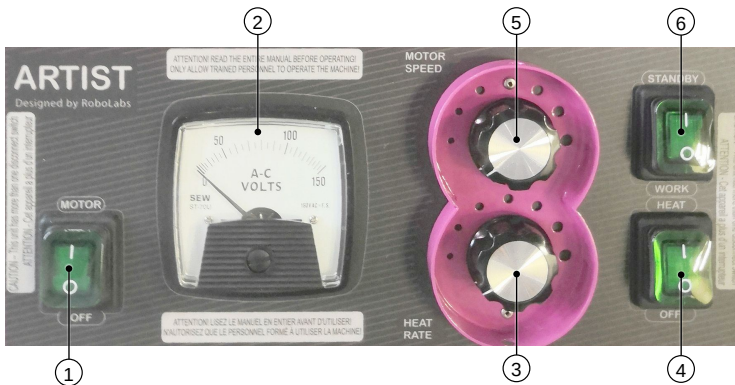

Figure 2: Control panel
The control panel represented on Fig.2: 1 – Motor switch; 2 – Voltmeter; 3 – Heating adjustment knob; 4 – Heating switch; 5 – Motor speed adjustment knob; 6 – Standby switch.
1. BEFORE plugging machine in the outlet receptacle, MAKE SURE all three switches (pos.1, 4, 6 Fig.2) are in (0) position.
5. Turn the main power switch (pos.1 Fig.2) ON, and the spinning head will begin to rotate.
6. Turn the heating switch (pos.4 Fig.2) ON.
7. Use the knob (pos.3 Fig.2) to adjust voltage on voltmeter (pos.2 Fig.2) to 70-80 V1.
11. Turn off the heating switch (pos.4 Fig.2) and capture the remaining cotton candy as the head cools down. When the head cools to the point that “snow” is produced, then cover the head with the “No Snow” cap and allow the head spin for 3-4 minutes to fully cool down before turning off the motor switch (pos.1 Fig.2).
If candy floss comes out too fast, it is possible to reduce the rotation speed by the adjustment knob (pos.5 Fig.2).
If there are no customers at the moment, it is convenient to keep the spinning head warmed up to be able to resume operation very quick. To turn on the standby mode set the switch (pos.6 Fig.2) to STANDBY position (the switch will be illuminated).
In this mode, a half of of the full power to be supplied to the heating element, no matter which position the heating adjustment knob (pos.3 Fig.2) is set to.